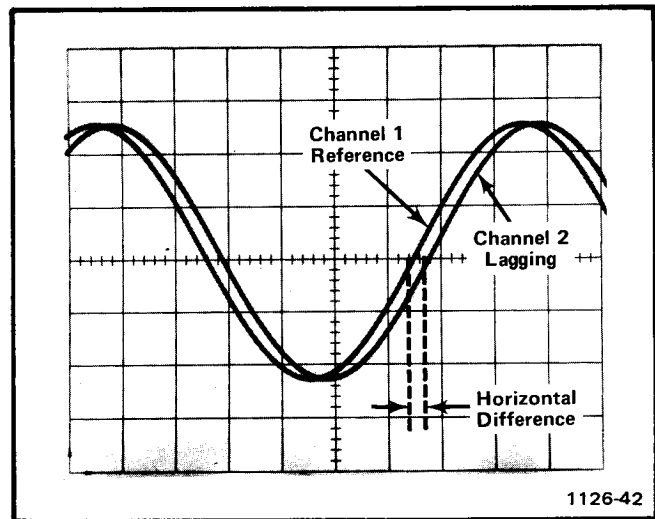

Fig. 2-4. Measuring phase difference between two signals.
8. Adjust the time-base Variable Time/Div control until one cycle of the reference signal occupies exactly eight horizontal divisions between the second and tenth vertical lines of the graticule (see Fig. 2-4). Each division of the graticule represents 45° of the cycle (360° ÷ 8 divisions = 45° division). The sweep rate can now be stated in terms of degrees as 45°/division.
EXAMPLE: Assume a horizontal difference of 0.3 division with a sweep rate of 45°/division as shown in Fig. 2-4.
Fig. 2-4 but with the Magnifier set to X10. With a horizontal difference of 3 divisions, the phase difference is: